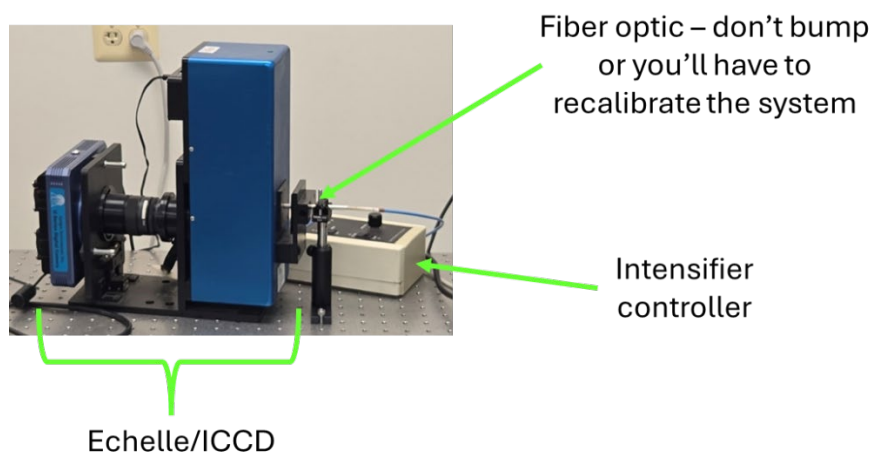

Figure 10. Echelle spectrometer and ICCD camera and intensifier controller used to set the gain.
- DO NOT BUMP the fiber optic cable; if you do, you will have to recalibrate the system (Figure 10)